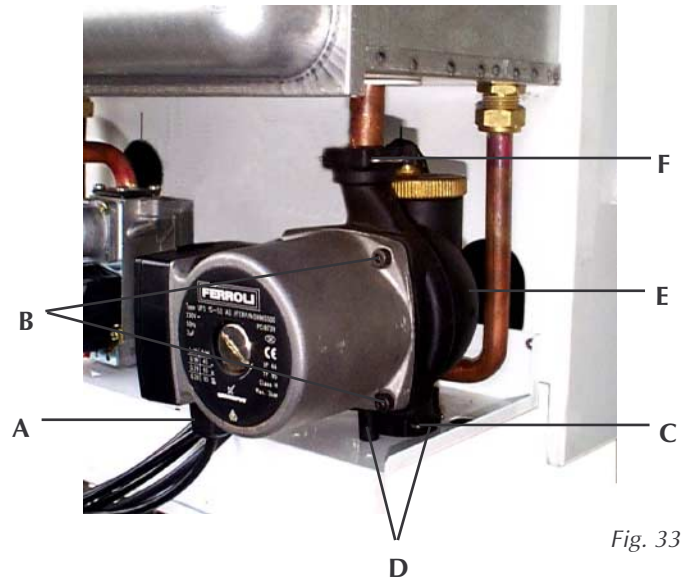

Fig. 33
7.16 Pump (fig. 33) Replacement of pump head
Replacement of pump body (fig. 33)